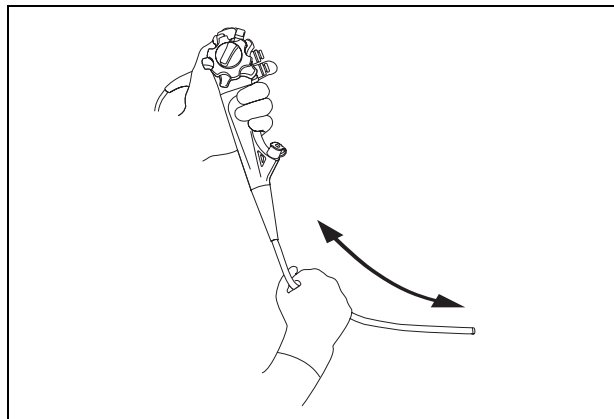

Figure 3.2
4. Holding the insertion tube gently with one hand, carefully run your fingertips over the entire length of the insertion tube in both directions (see Figure 3.2). Confirm that no objects or metallic wire protrude from the insertion tube. Also confirm that the insertion tube is not abnormally rigid.